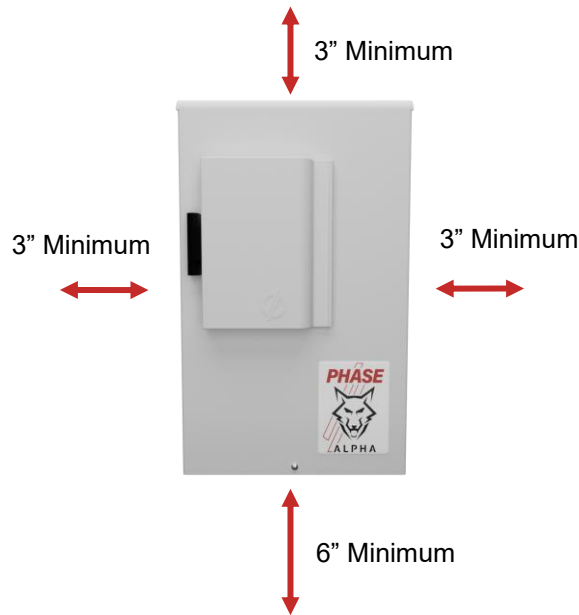

Figure 5 – Minimum Clearance
- To allow for proper cooling and air circulation around the enclosure, maintain minimum clearances depicted in **Figure 5**. The drives are cooled by fans with ventilation openings on the bottom of the enclosure. The surface around the enclosure should be non-flammable material and clear of obstacles. Locate the drawing in **Section 3.5** for dimensions and mounting hole locations.